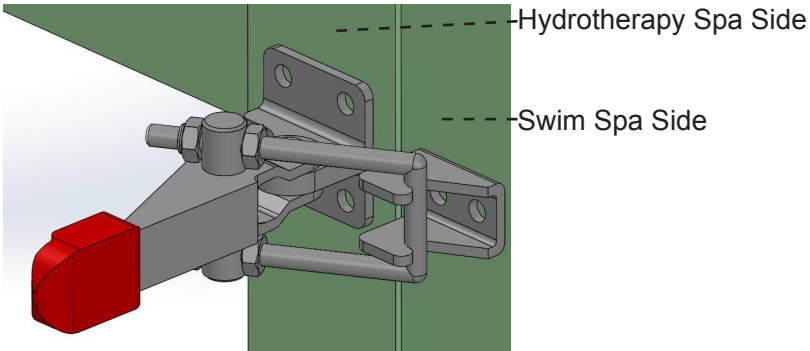

Figure 7
Close-up view of the locking position that all (6) latch configurations should be locked to ensure maximum tightness as shown in Figure 7.